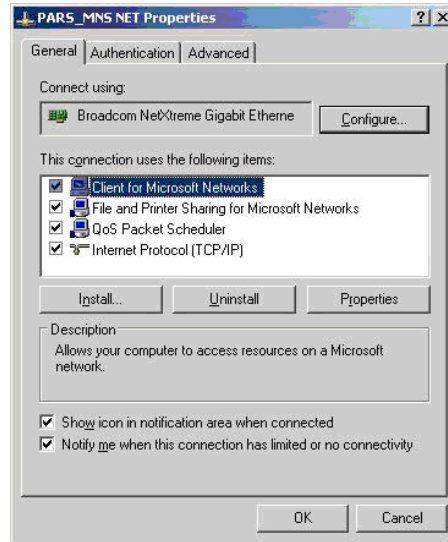

Figure 1-120. PARS_MNS NET Properties Dialog
1. Right click on the **PARS_MNS Net** name to open the context menu and select **Properties**. The "PARS_MNS NET Properties" popup is displayed (Figure 1-120).